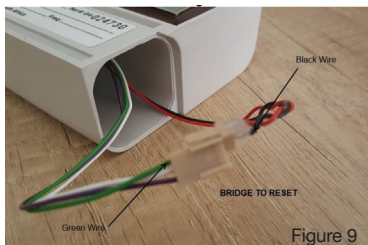

Figure 9
- Bridge out the black wires terminal pin with the green wires terminal socket for about 2 seconds on the receiver module as shown in Figure 9.